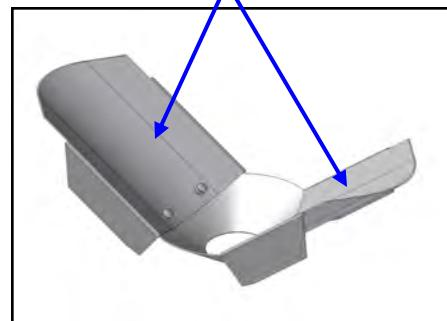

Figure 2: Flow Balancer (LP800)
6. On LP800 models only, insert the flow balancer (figure 2) in the cone of the seed treater so the ends of the flow balancer are directly under the bottom openings of the seed wheel. Holes can be drilled to mount the flow balancer permanently in the seed treater.